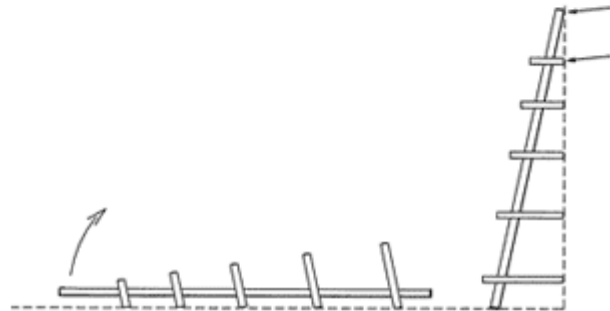

Figure 4
6. Tip unit upright next to the wall, moving the unit slightly so the top of frame, or top shelf, touches the wall first (Figure 4).